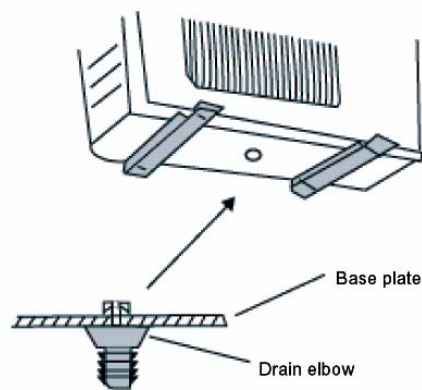

Fig.11-8
③ Air purging and leakage test
- Align the center charging flexible tube which is on the vacuum gauge with the low(Lo)pressure port, then connect to the fluorine charging nozzle. (As shown in Fig.11-8)